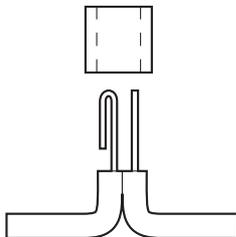

Figure 7
- (b) Strip back the insulation so that the enough wire is exposed to fit into the sleeve in the configuration shown in *Figure 7*.